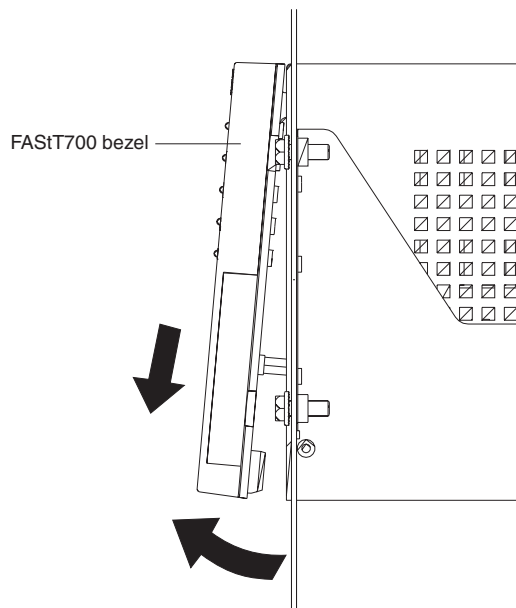

Figure 20. Removing the FAST700 Storage Server bezel
To access the controllers, battery, storage server fan, and indicator lights, you must remove the FAST700 Storage Server bezel, as shown in Figure 20.
1. Carefully pull the bottom of the bezel out to release the pins; then slide the bezel down, as shown in Figure 20.
**Note:** To view the RAID controller indicator lights, remove the FAStT700 Storage Server bezel, as shown in Figure 20 on page 16.